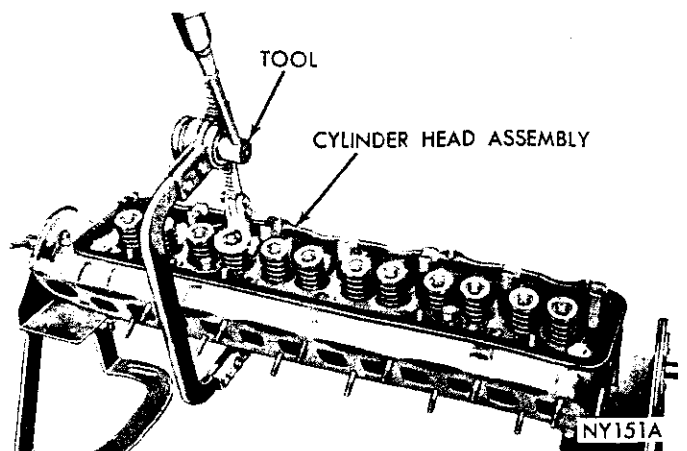

Fig. 11—Compressing Valve Spring
(1) With cylinder head removed, compress valve springs, using Tool C-3422A (Fig. 11).
(2) Remove valve retaining locks, valve spring retainers, valve stem cup seals and valve springs.